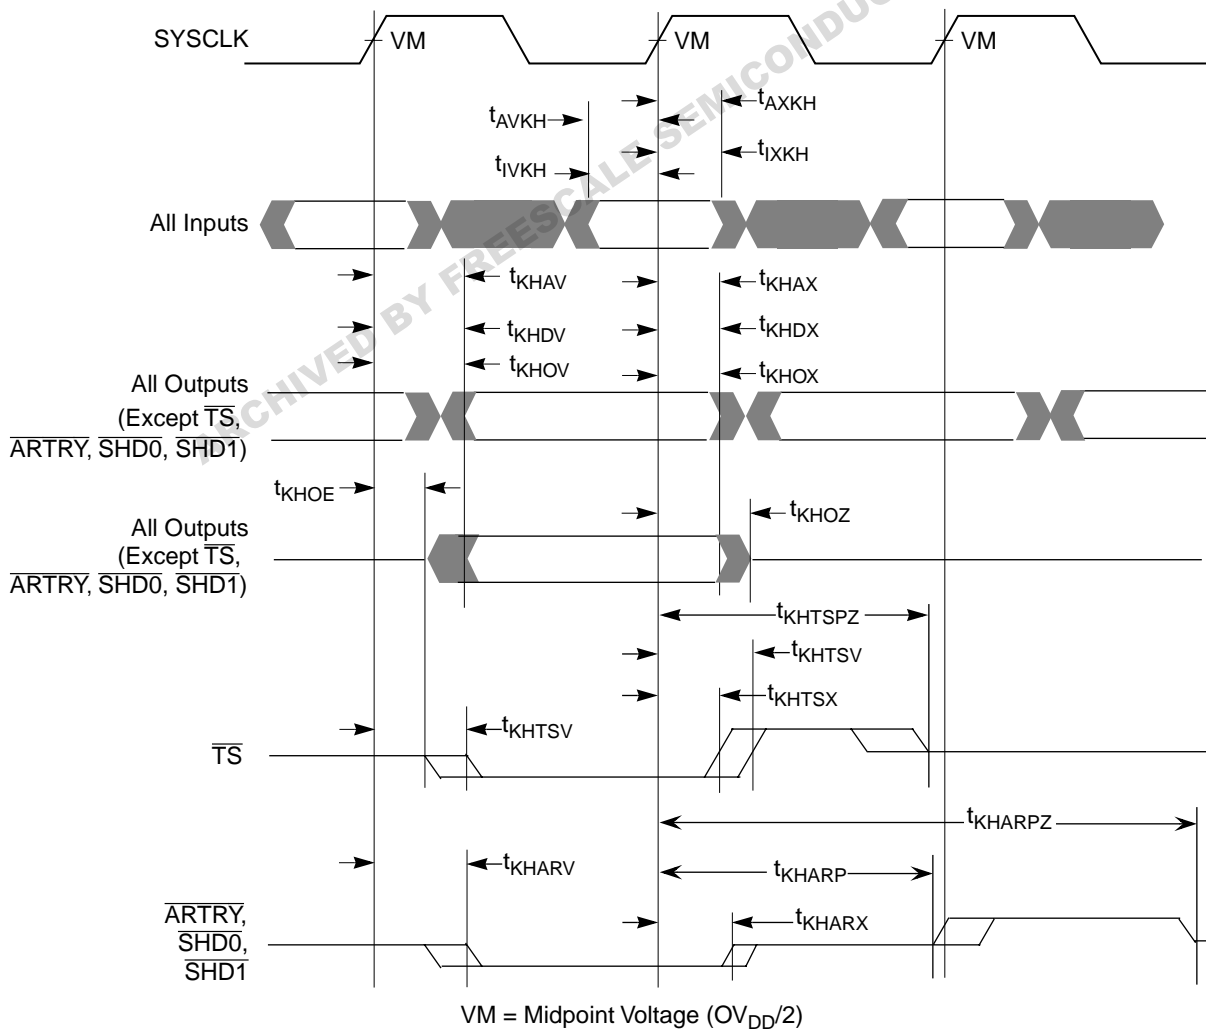

Figure 6. Input/Output Timing Diagram
- According to the bus protocol, $\overline{\text{TS}}$ is driven only by the currently active bus master. It is asserted low then precharged high before returning to high impedance as shown in Figure 6. The nominal precharge width for $\overline{\text{TS}}$ is $0.5 \times t_{\text{SYSCLK}}$, i.e., less than the minimum t_{SYSCLK} period, to ensure that another master asserting $\overline{\text{TS}}$ on the following clock will not contend with the precharge. Output valid and output hold timing is tested for the signal asserted. Output valid time is tested for precharge. The high impedance behavior is guaranteed by design.
- According to the bus protocol, $\overline{\text{ARTRY}}$ can be driven by multiple bus masters through the clock period immediately following $\overline{\text{ACK}}$. Bus contention is not an issue because any master asserting $\overline{\text{ARTRY}}$ will be driving it low. Any master asserting it low in the first clock following $\overline{\text{ACK}}$ will then go to high impedance for one clock before precharging it high during the second cycle after the assertion of $\overline{\text{ACK}}$. The nominal precharge width for ARTRY is $1.0 t_{\text{sysclk}}$; that is, it should be high impedance as shown in Figure 6 before the first opportunity for another master to assert $\overline{\text{ARTRY}}$. Output valid and output hold timing is tested for the signal asserted. The high-impedance behavior is guaranteed by design.
Figure 6 provides the input/output timing diagram for the MPC7450.